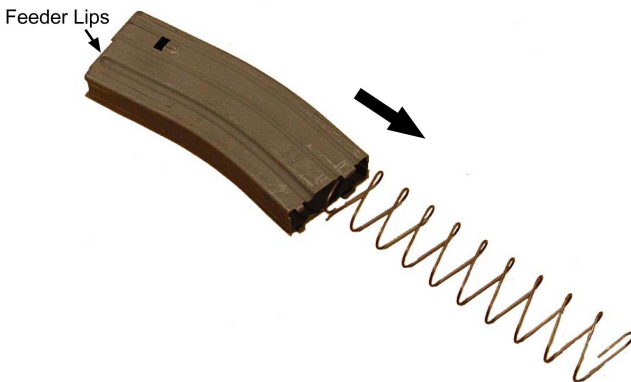

Figure 3-34. Magazine Spring and Follower
- (3) Manipulate spring and follower to remove. Refer to Figure 3-34.